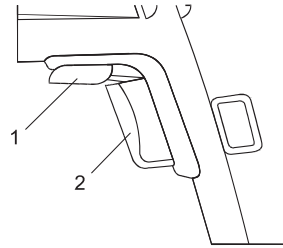

Fig. 1
The forward/reverse lever (1) is conveniently mounted above the trigger lever (2) (see Fig. 1). To make the drill rotate clockwise (for drilling) push the forward/reverse lever to the left. To make the drill rotate counter-clockwise for removing screws, push the forward/reverse lever to the right.